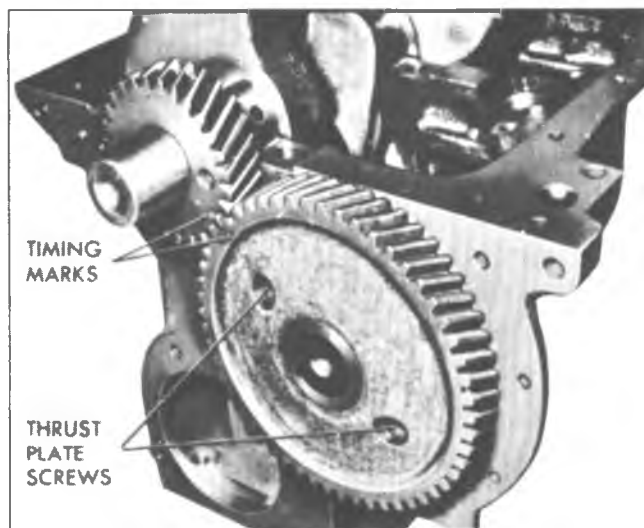

Fig. 25L—Timing Gear Alignment Marks
5. Align timing gear marks then remove the two camshaft thrust plates screws by working through holes in the camshaft gear (fig. 25L).
2. Turn crankshaft and camshaft so that the valve timing marks on the gear teeth will line up (fig. 25L). Push camshaft into position. Install camshaft thrust plate to block screws and torque to specifications.